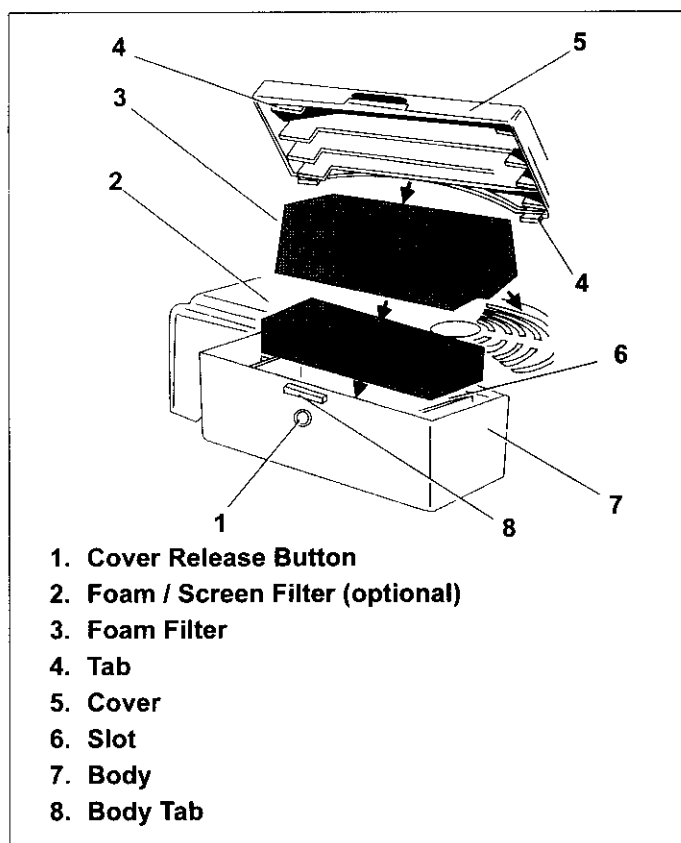

Figure 25. Air Cleaner Type "A" Assembly
1. Press cover release button and lift cover upward. See Figure 25.